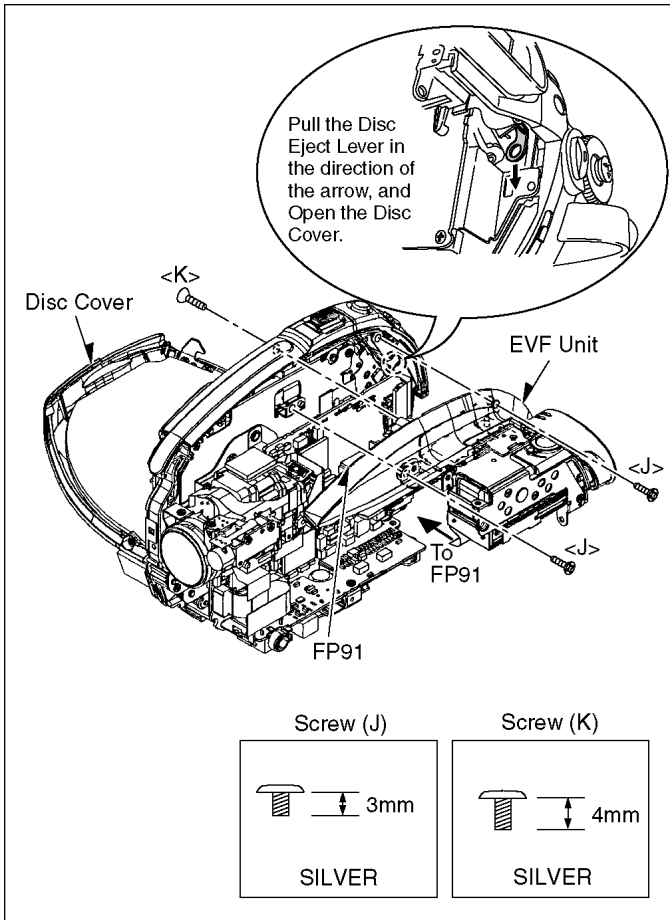

Fig. D6
| 4 | EVF Unit | Fig. D6 | 2-Screws (J) Pull the Disc Eject lever in the direction of the arrow, and Open the Disc Cover. 1-Screw (K) 1-Connector FP91 EVF Unit |